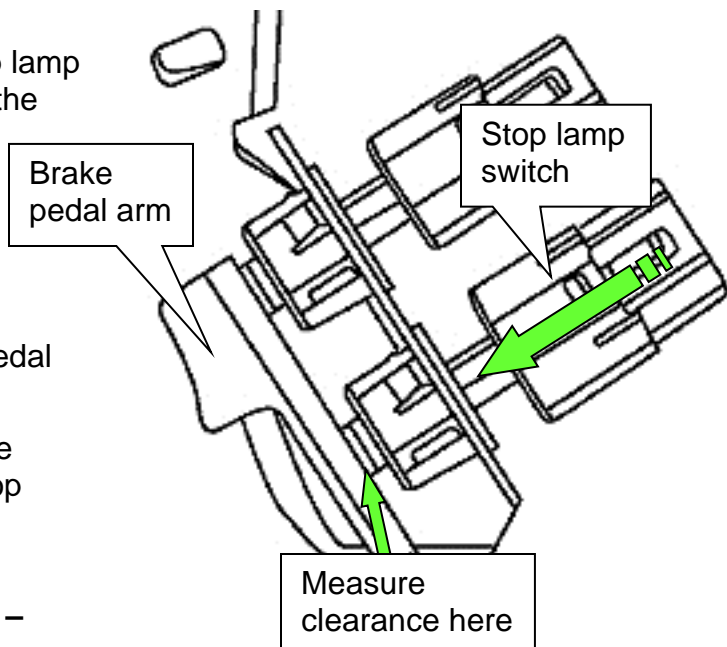

Figure 15
2. While unlocked, gently push the stop lamp switch until its plastic body contacts the brake pedal arm (Figure 15).
4. Confirm the clearance between brake pedal arm and plastic body of the stop lamp switch (Figure 15); readjust as necessary.